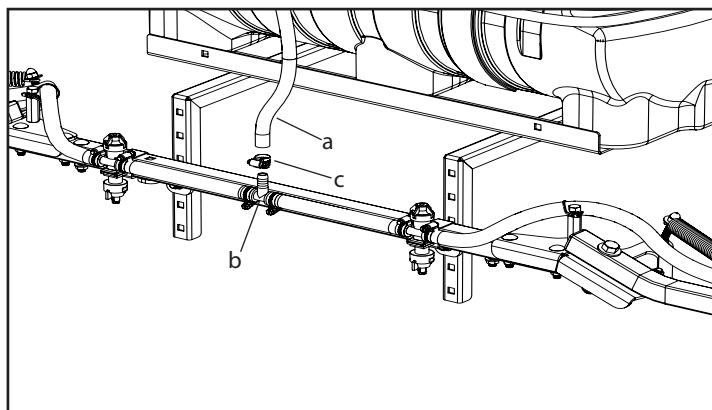

Figure 7: Tee/Supply hose
7. Connect the boom supply hose (a) coming from the sprayer tank to the white barbed tee on the center boom section. Insert the 1/2" barbed tee (b) into the boom supply line and tighten with a hose clamp (c) (Figure 7).